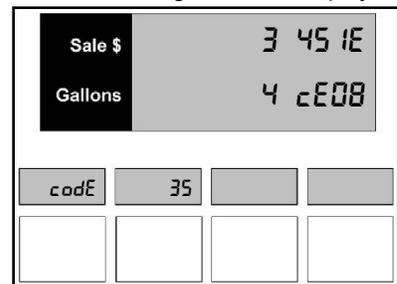

Figure 35.2 – Display 2
2. Press the **Enter** button to view the next eight sets of four digits as shown in *Figure 35.2*.